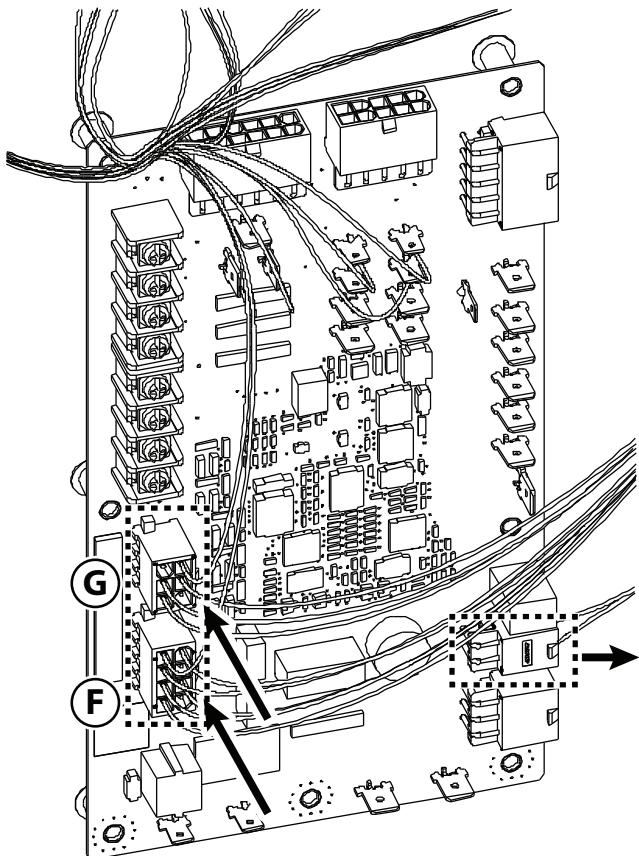

Fig. 6 – DDC and DDC TSTAT Connection, IFM Disconnection
1. Connect main harness connectors labeled LCTB DDC and LCTB DDC T-STAT to the CTB at the DDC and DDC T-STAT. Disconnect IFM. (See Fig. 6.)